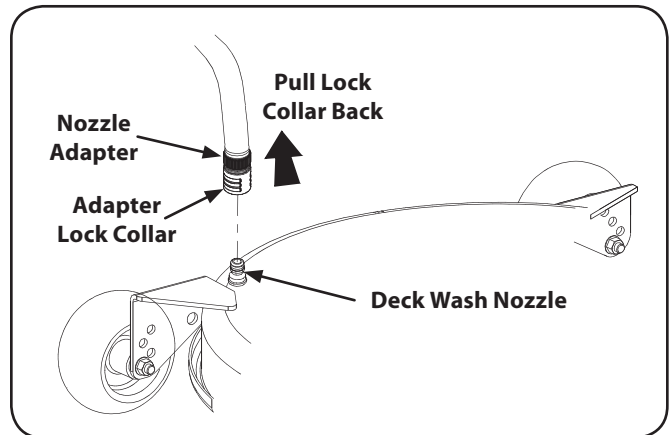

Figure 6-1
3. Pull back the lock collar of the nozzle adapter and push the adapter onto one of the deck wash nozzles at either end of the mower deck. Release the lock collar to lock the adapter on the nozzle. See Fig. 6-1.